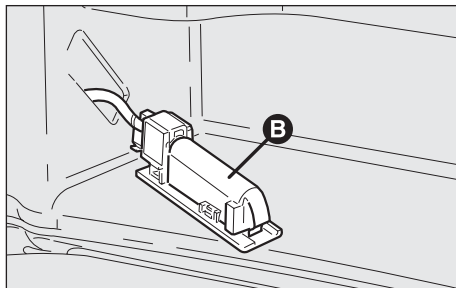

fig. 61
- Remove the cover (**B-fig. 61**).
- Refit the cover (**B-fig. 61**).